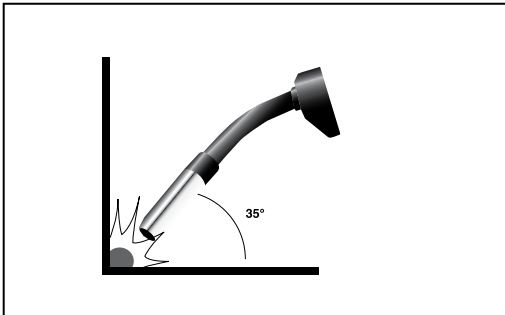

FIG. 6
8.5 MIG WELDING PRINCIPLES – FIGS. 6 – 7